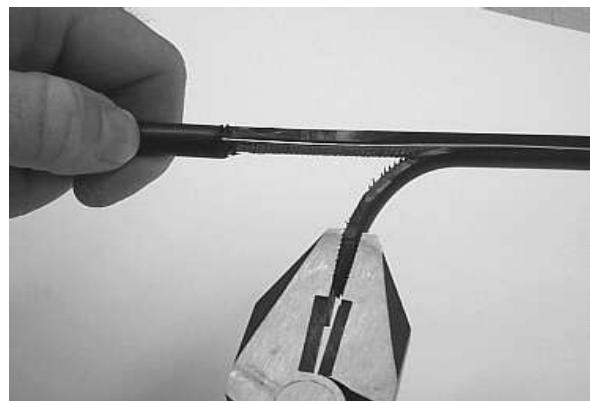

Figure 4 – Peel off the cable jacket.
4.5 Peel off both sections of the cable jacket and expose the armor between the two marks (Figure 4).